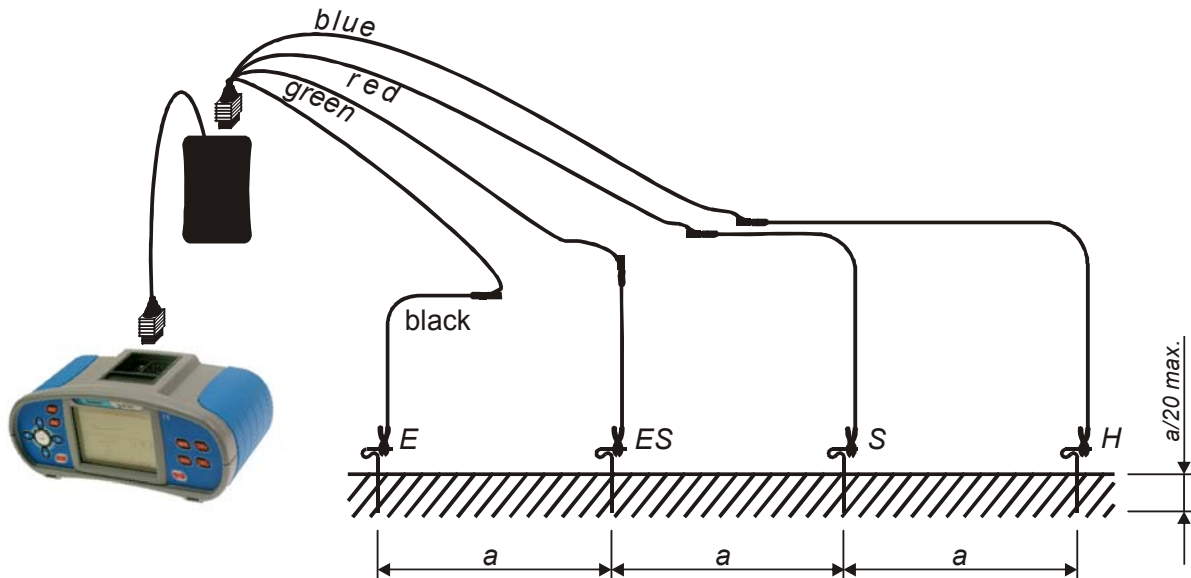

Figure 5.49: Specific earth resistance measurement with  $\rho$ -adapter
- ❑ Connect test leads of  **$\rho$ -adapter** to tested object (see figure 5.49)